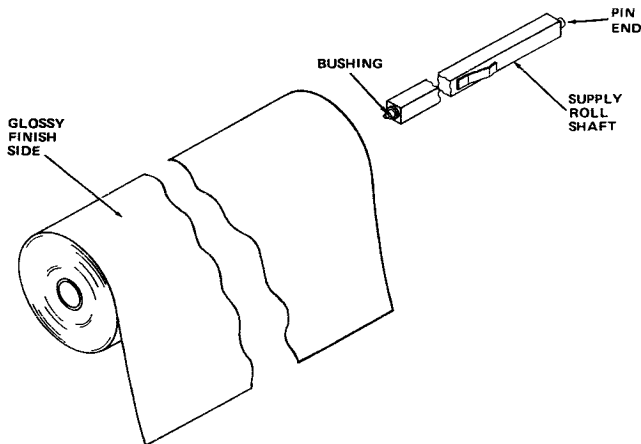

Figure 4.0.1 Inserting Lower Supply Roll Shaft Into Film Roll
4. Holding a new roll with the glossy finish side as shown in figure 4.0.1, insert the supply roll shaft into the laminating film roll until square portion of shaft is centered in roll.